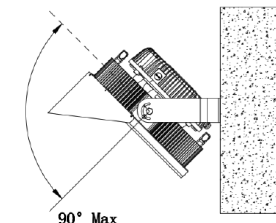

FIG. 8
- 4) Make any angle adjustment as necessary [Fig.8].